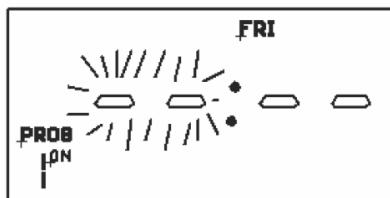

Figure B-13: Duplicating program
4. Use '+' or '-' button to select 'TUE', then press 'TIME' button twice to copy the data. The display will represent Figure B-13.